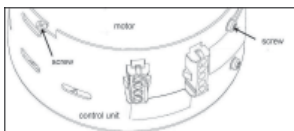
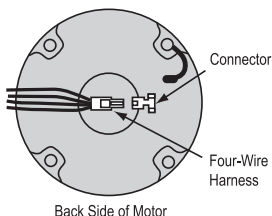

Figure 13a
Figure 14a
- Loosen two screws securing the motor and control unit together. Twist the control unit and pull away from motor until both units are separated [Figure 13a].
- Disconnect the four-wire motor-to-control harness from the motor end [Figure 14a] and remove control unit [Figure 13a]. Inspect for bent, damaged, or recessed wires and terminals inside of connector.